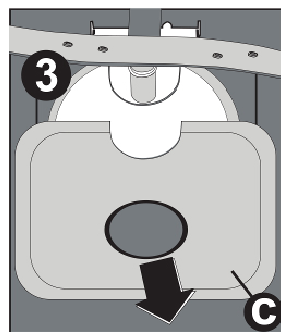

Fig. 15
- Remove the base filter from the dishwasher compartment (Fig. 15).
- This can be connected to a water drain or to a sink outlet spigot. Where the hose is to be connected to a spigot, ensure that the spigot is cut/opened (if required) before attaching the hose. A circlip can be used to secure this connection. **Observe the 150mm minimum height distance between the spigot and drain hose support as per fig. 15.**